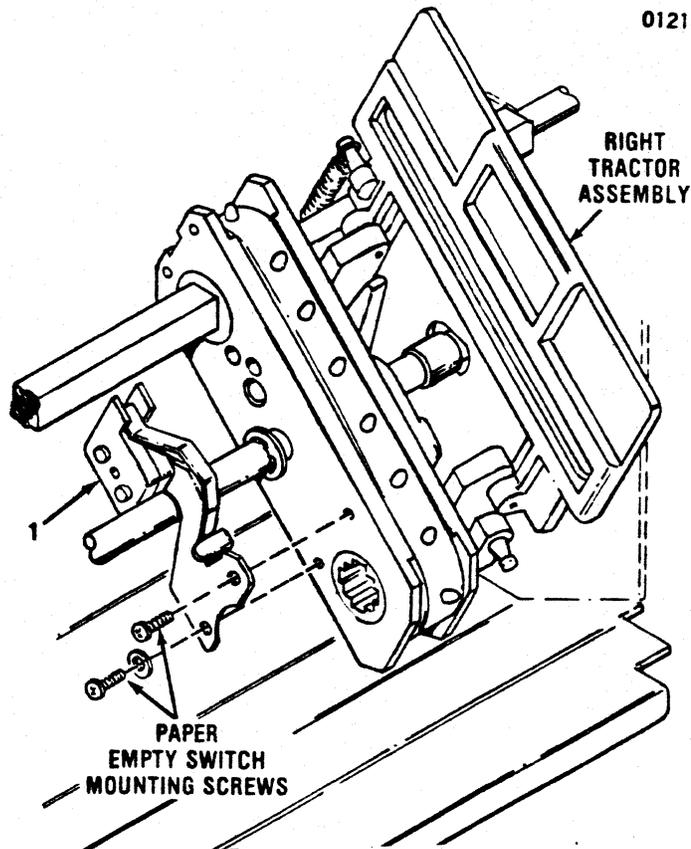

Figure 5-17. REMOVAL/REPLACEMENT, PAPER EMPTY SWITCH
The paper empty switch, item 1 of Figure 5-17, is located on the right print feed tractor and is removed using a Phillips head screwdriver. To remove the paper empty switch, refer to Figure 5-17 and perform the following steps: